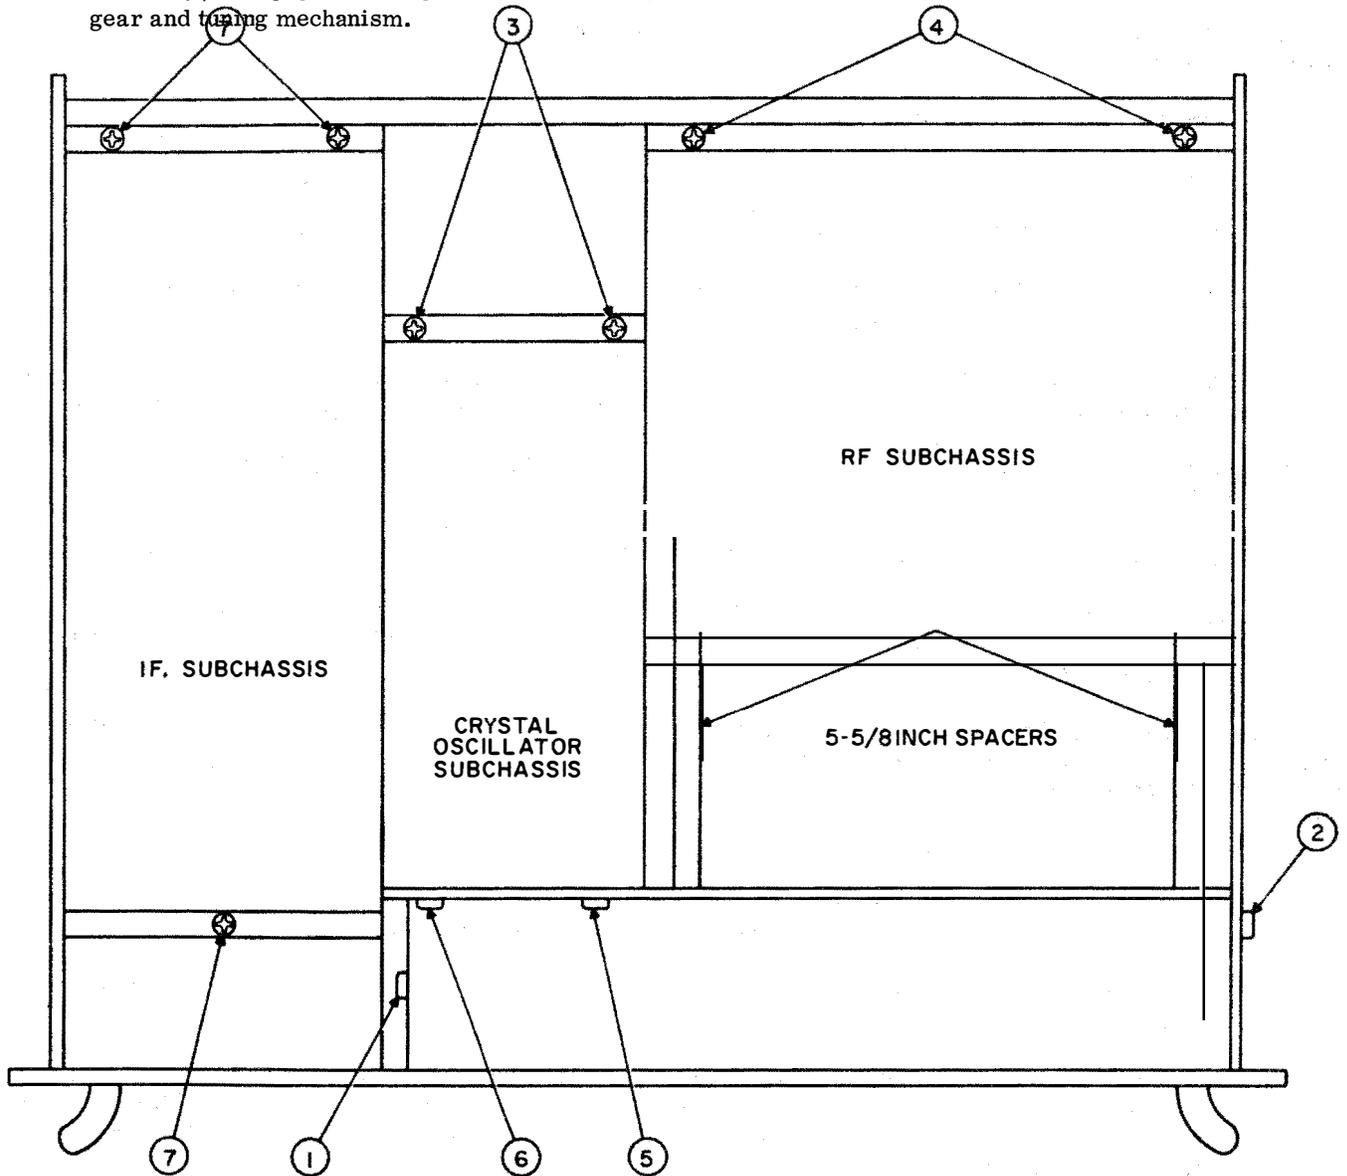
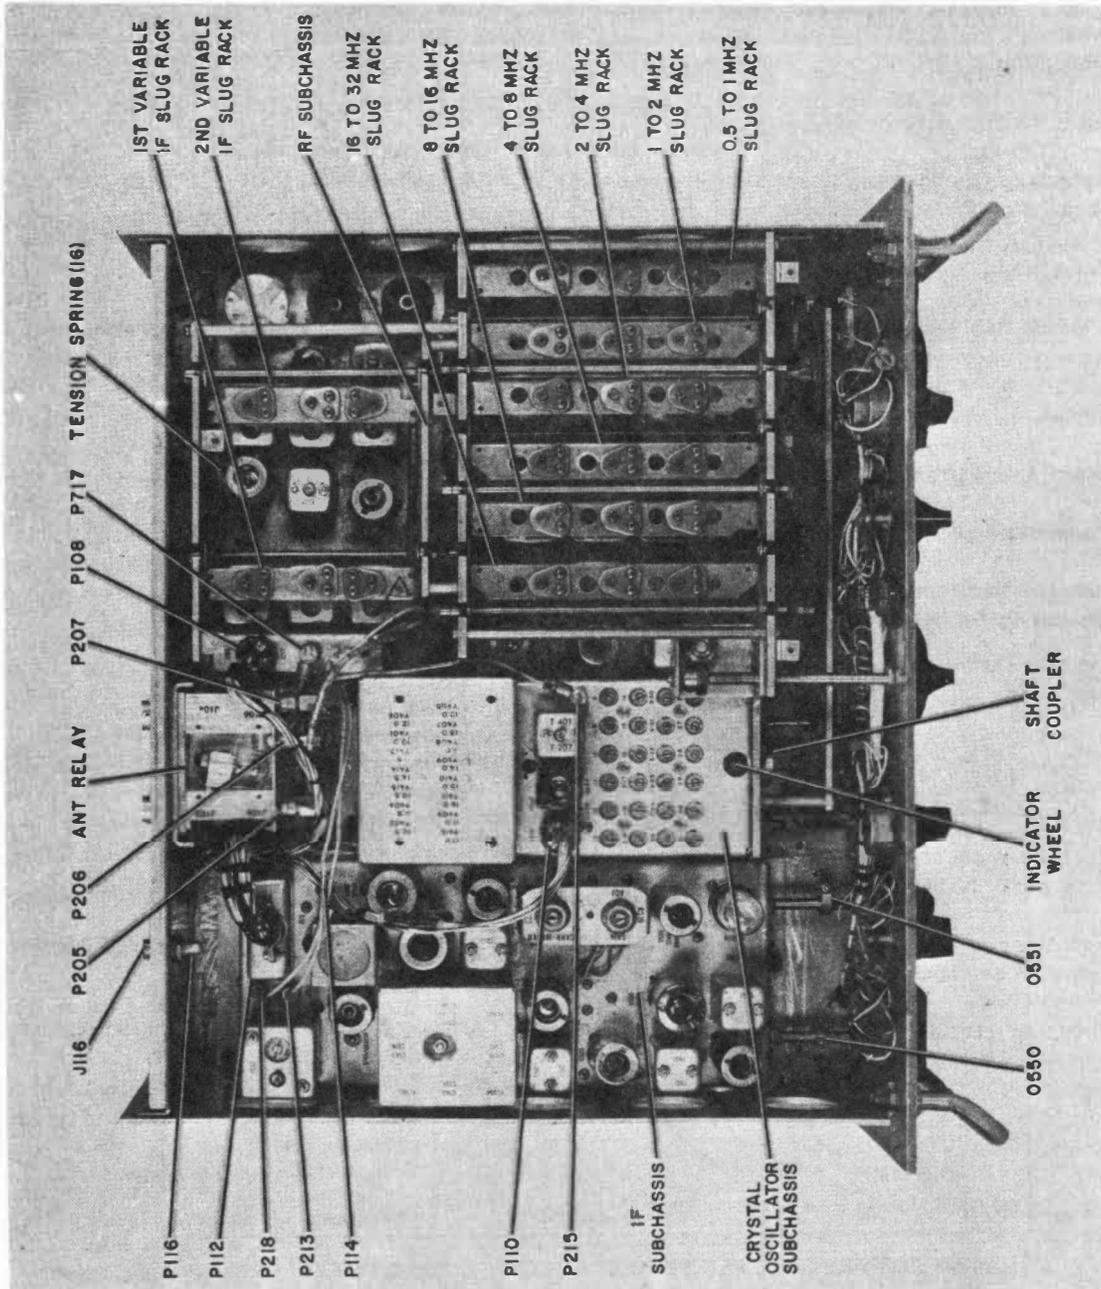
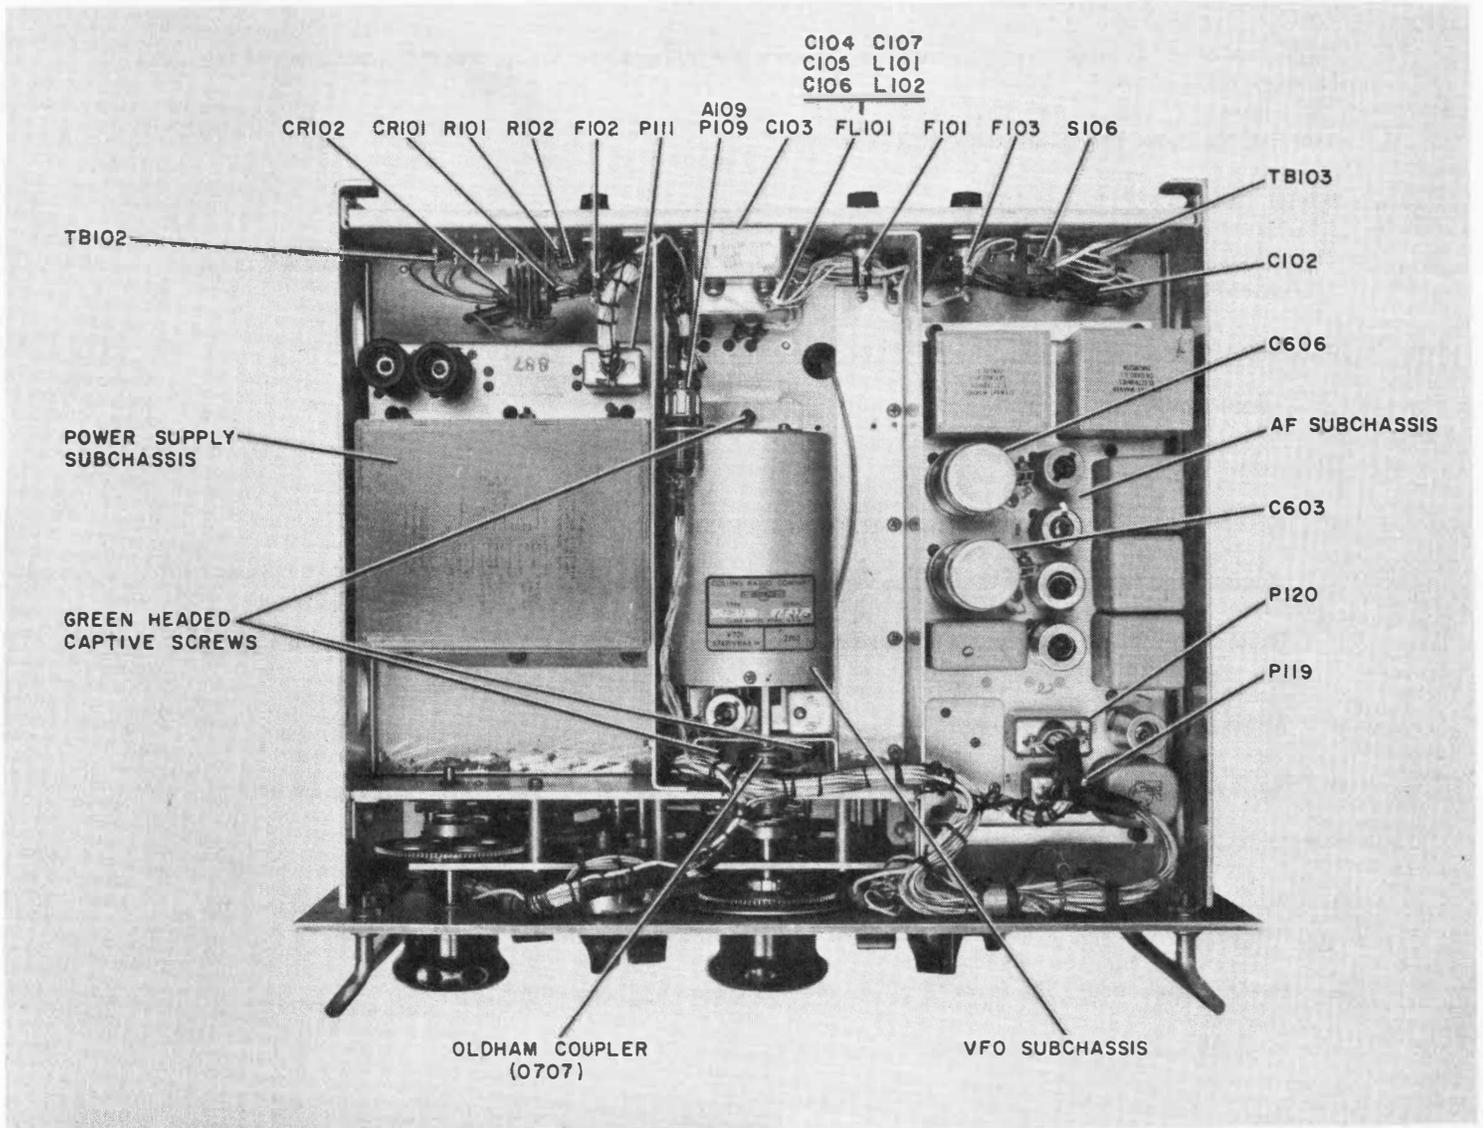

Figure 6-10. RF, IF, and Crystal-Oscillator Subchassis Removal and Replacement Location of Screws
Figure 6-14. Radio Receiver R-390A/URR, Top View
Figure 6-15. Radio Receiver R-390A/URR, Bottom View
6.3.3 Removal and Replacement of RF Subchassis. (See figure 6-10.) Remove the RF subchassis and the crystal-oscillator subchassis as one unit.
6. Remove the two 1/2-inch by 6-32 green-headed Phillips screws and lockwashers (1, figure 6-10) through the access hole provided in the left side of the main frame. These two screws are in a vertical row.
7. Remove the three 1/2-inch by 6-32 green-headed Phillips screws and lockwashers (2) that are located at the right side of the main frame. These three screws are in a vertical row.
8. Loosen the two green-headed captive screws (3) and the two green headed captive screws (4).
6. Tighten all the green-headed screws (figure 6-10) in the following order:
- Three marked (2).
- Four captive screws marked (3) and (4).
- Two marked (1).
6.3.7 Removal and Replacement of Crystal-Oscillator Subchassis. (See figure 6-10.) Two methods can be used for the removal of the crystal-oscillator subchassis. This procedure, however, is for the removal of the crystal-oscillator subchassis when the RF subchassis is to be retained in the main frame of the receiver. When the RF and crystal-oscillator subchassis have been previously removed from the main frame, omit the procedures given in 1, 7, and 9 below.
2. Disconnect plugs P110 and P215 (figure 6-14).
3. Temporarily replace the MEGACYCLE CHANGE knob and turn it until the gears are positioned with their holes lined up with the access hole in the front plate. This makes the 5/16-inch by 6/32 green-headed Phillips screw (5, figure 6-10) accessible.
4. Remove the screw (5) and its lockwasher and the two green-headed screws and their lockwashers (6). The latter two screws are in a vertical row.
5. Loosen, but do not remove, the shaft coupler setscrew on the crystal-oscillator drive shaft (figure 6-14).
6. Loosen the two green-headed captive screws (3, figure 6-10) at the rear of the crystal-oscillator subchassis.
7. Temporarily disconnect plugs P205, P206, and P207 (figure 6-14) to provide enough clearance for subchassis removal.
2. Temporarily disconnect plugs P205, P206, and P207 (figure 6-14).
6. Replace the three green-headed Phillips screws and their lockwashers (5 and 6, figure 6-10) at the front of the crystal-oscillator subchassis. Long-nosed pliers may be used to hold the screws while starting them.
2. Disconnect plugs P112, P116, P213, and P218 (figure 6-14).
6.3.11 Removal and Replacement of VFO Subchassis. (See figure 6-15.) Removal of this subchassis does not require the previous removal of any other subchassis. Handle this subchassis carefully to prevent damage or misalignment.
3. Loosen the three green-headed captive screws (figure 6-15) that secure the subchassis.
5. Disconnect plugs P109 (figure 6-15) and P717 (figure 6-14).